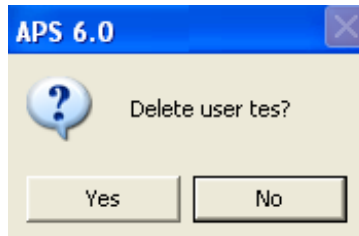

Figure 6: Delete User Confirmation Box
3. The Delete User Confirmation box, confirms you want to delete this user. Click the Yes button and the system will remove the user. Figure 6 shows the Delete User Confirmation box.